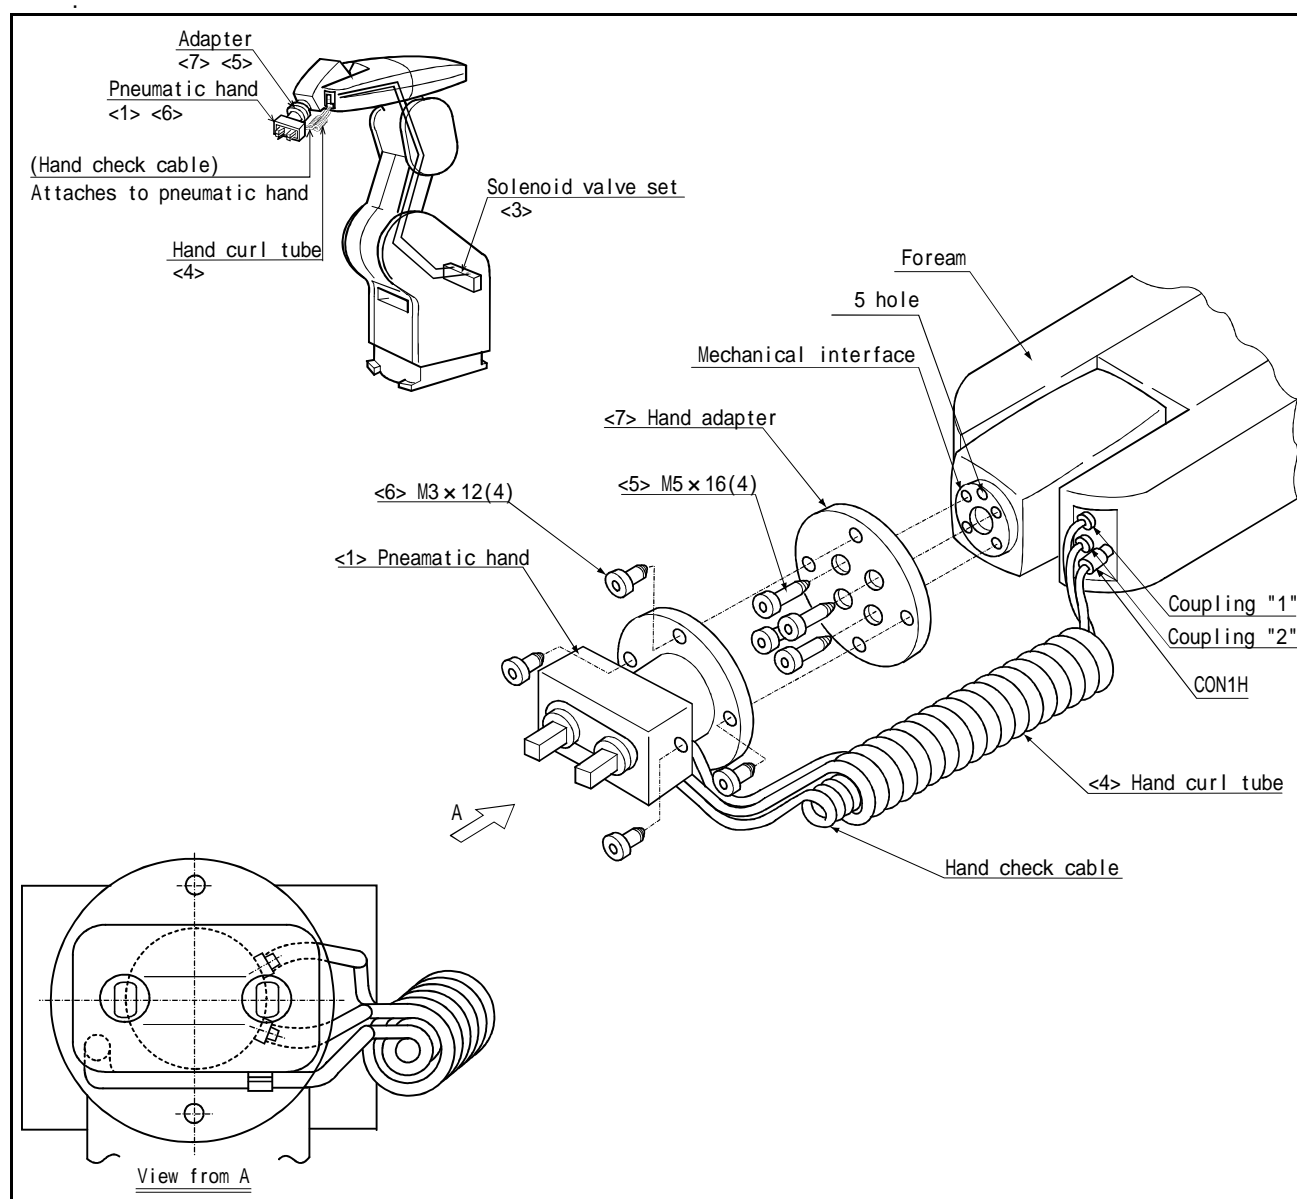

Fig.3-3 : Pneumatic hand set installation procedures
Fig. 3-3 shown the method for installing the pneumatic hand. The installation steps are as follows:
- 2) Use four M3x12 hexagon socket head bolts <6> to install the pneumatic hand to the hand adapter. Use Fig. 3-3 to find the where the ends of the cables should be connected to the adapter.
- 3) As shown in Fig. 3-3, connect the hand curl tubes to coupling "1" and coupling "2", which protrudes from the cover of the forearm. The opposite end of the tube connected to coupling "1" should be attached to the hand's OPEN coupling, and the opposite end of the tube connected to coupling "2" should be attached to the hand's CLOSED coupling.
- 4) As shown in Fig. 3-3, connect the hand check cable, which is attached to the main unit of the hand, to the connector CON1H, which protrudes from the cover of the forearm. This completes the installation of the hand.
While operating the hand, depending on the J5 axis and J6 axis, the hand curl-tube and the hand check cable can get entangled with the hand adapter and forearm. In this case, temporarily remove the hand, and reposition it to its correctly installed position, as shown in Fig. 3-3.